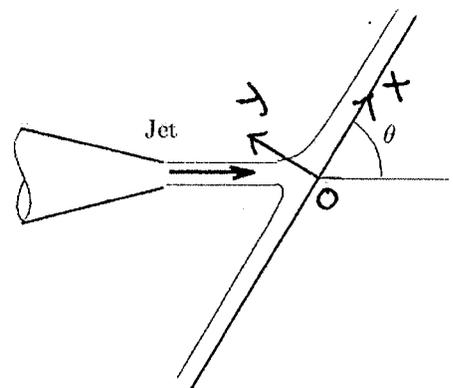

Figure 4 (for Q4)
4. Water of flow rate  $10 \text{ kg/s}$  is accelerated by a nozzle to a speed of  $20 \text{ m/s}$ , and strikes a stationary horizontal channel placed at an angle  $\theta$  to the jet direction as shown in figure 4. After the strike the water splatters off in two directions horizontally as shown in the figure. Flow is frictionless.